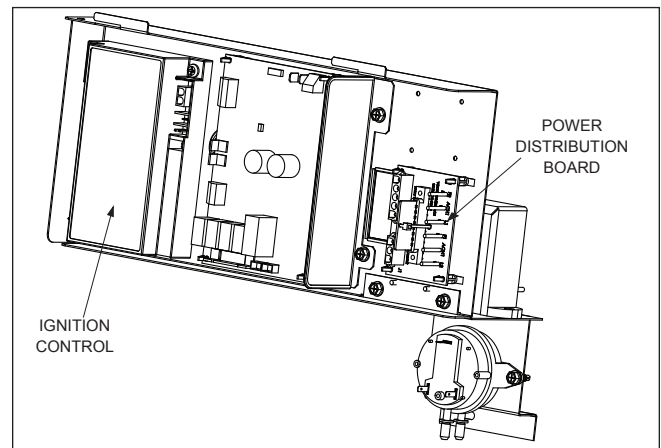

Figure 22. Location Of Power Distribution Board
1. Identify the power distribution board on the heater. It is located to the right of the ignition control on the raceway. See Figure 22.